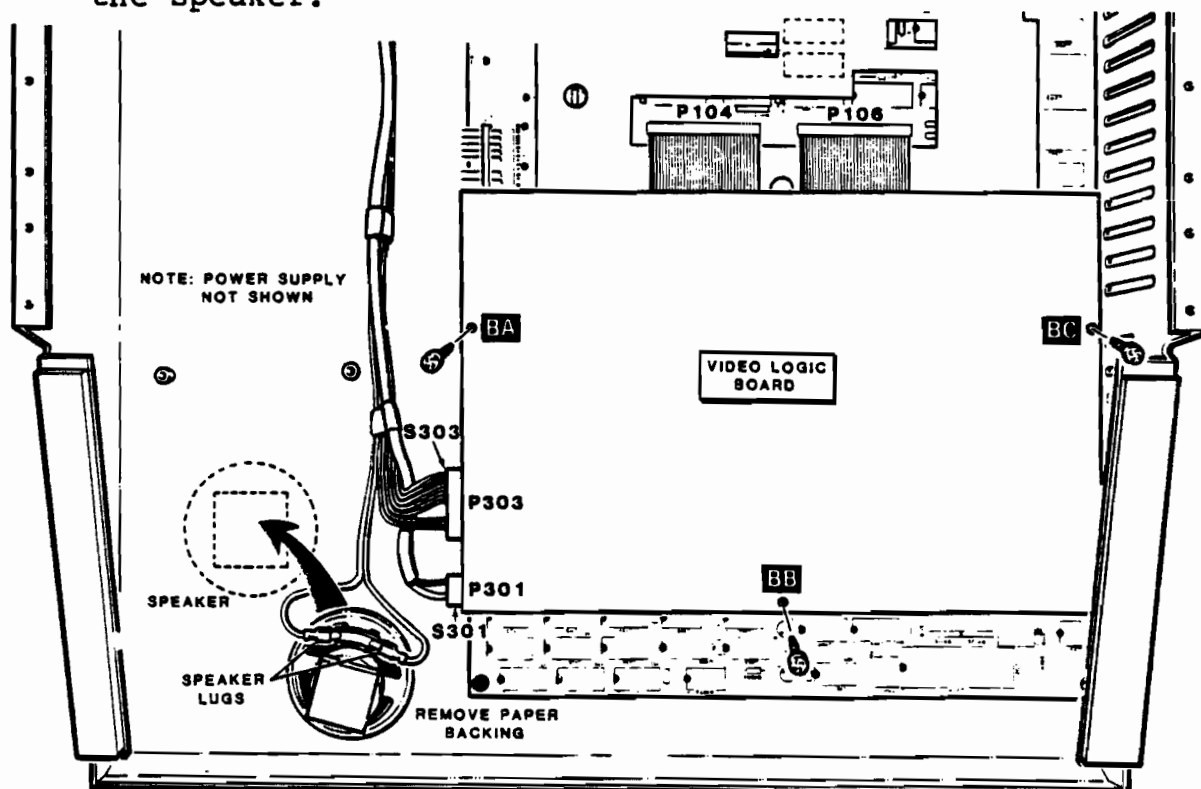

Figure 16
7. Connect the 10 position female plug S303 and the 4 position plug S301 on the Z-100 end of the cable assembly to P303 and P301 on the Zenith video logic board. See figure 16 on page 22.